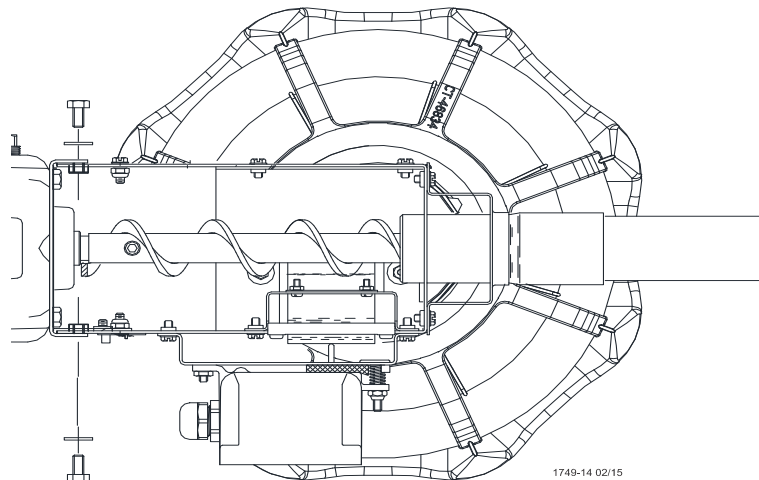

Figure 30. Attaching the Anchor Plate and Gearhead Assembly to the Control Unit Body
7. Attach the Anchor Plate and Gearhead Assembly to the Control Unit Body using the included 1/4" Lock Washers and 1/4-20 x 1/2" Bolts. See **Figure 30**.